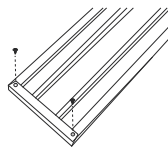

Figure 1
1. Lay the seat plank upside down on a flat surface. Slide the metal end caps onto each end of the plank. The pre-drilled holes of the end cap should be facing up. Use power drill and two self-tapping screws to secure each end cap onto each end of the plank. (See Figure 1)